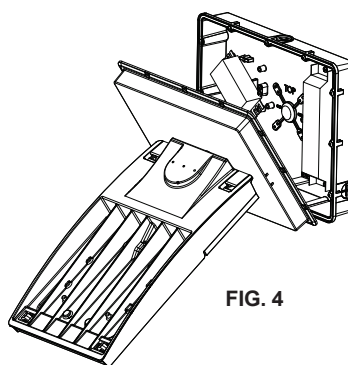

FIG. 4
4. Hook the fixture and EM extension cover onto the EM extension box. Allow the fixture to hang by the brackets to facilitate the wiring process (see FIG. 4).